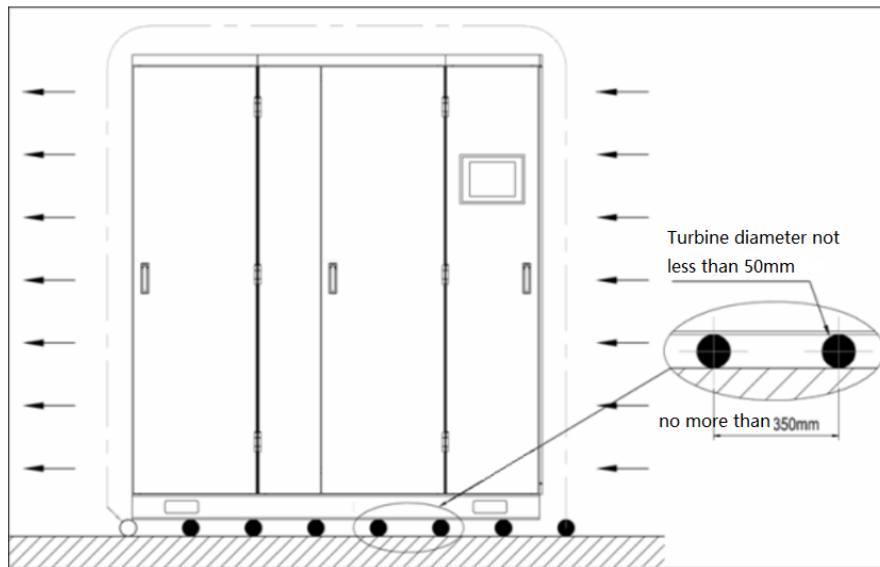

Figure 6.7 Schematic diagram of roller handling
(4) Rollers: place many rollers side by side on the floor, put the cabinet on top of the rollers, and move the rollers in a circular manner for handling. The length of the rollers should be greater than the width of the cabinet. As shown in Figure 6.7